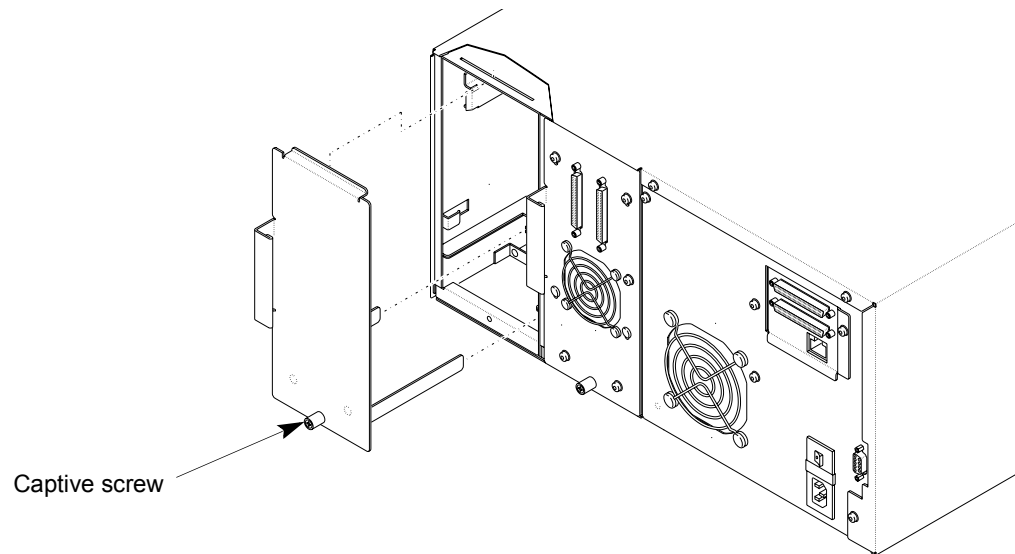

Figure 1 Removing the drive access cover
1. From the back panel, use a #2 Phillips screwdriver to release the captive screw that secures the service access cover to the library (see Figure 1).
2. When the screw is loosened, remove the service access cover, as shown in Figure 1.